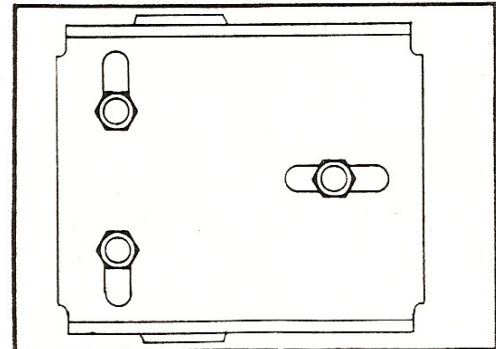

Fig. 3: Mounting Instruction
- B. The winch should be mounted, using three 3/8" dia. S.A.E. Grade 5 bolts (not supplied). Two bolts should attach the winch to the mounting structure utilizing the outside rear holes or slots. The third bolt should be inserted through the winch frame and mounting structure in a manner to utilize the foremost remaining frame slot (hole) (Fig. 3).